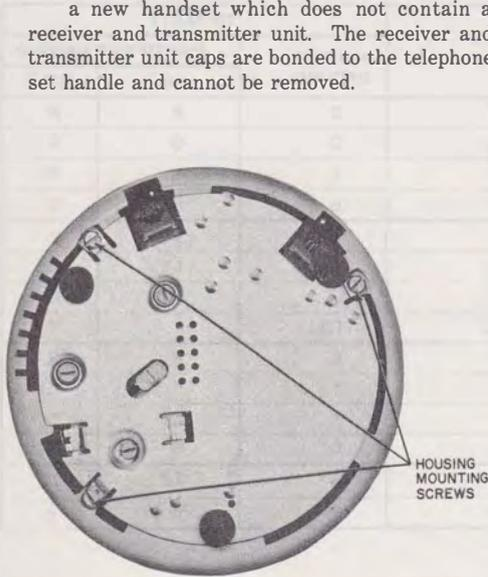

Fig. 6—940A or 940B Telephone Set, Bottom View
- (1) Remove handset cord from handset and telephone set base.
- (2) Remove mounting cord from telephone set base.
- (3) Remove three housing mounting screws located on bottom outer edge of the baseplate (Fig. 6 or 7).
- (4) Remove upper and lower housing by lifting them off.
- (5) Install dummy rotary dial from the appropriate D-kit of parts listed in Table A.
(6) Reassemble upper and lower housings (less telephone set base) using the three housing mounting screws (Fig. 6 or 7).
(7) Replace the customer's present handset with a new handset which does not contain a receiver and transmitter unit. The receiver and transmitter unit caps are bonded to the telephone set handle and cannot be removed.
(8) Plug the disconnect handset cord into the dummy handset and base.